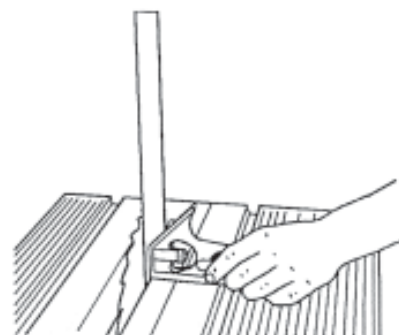

Figure C-31
24. Place the combination square against both the saw blade and worktable, see Figure C-31. Make sure the square's blade does **not** touch a saw tooth and **does** rest in a gullet between teeth.